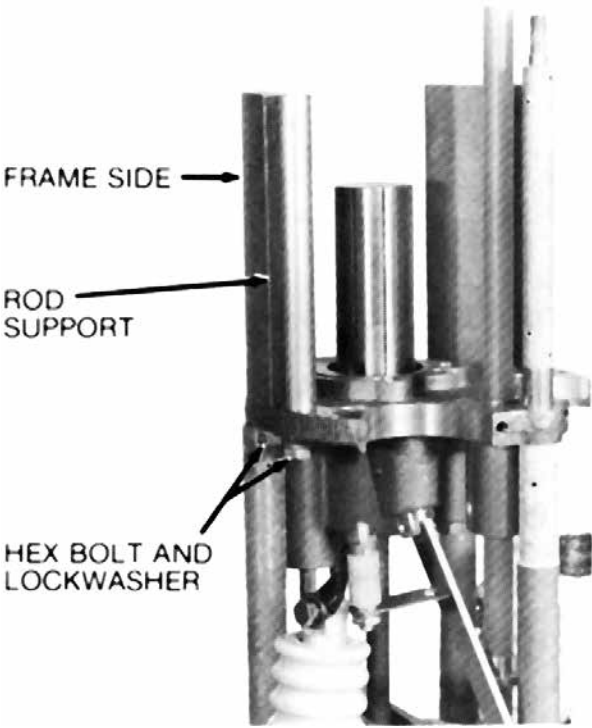

Figure 24. Removing frame shoes and rod supports
4. If necessary the frame shoes and rod supports can be removed from the hydraulic mechanism by removing the hex bolts and lockwashers (Figure 24).